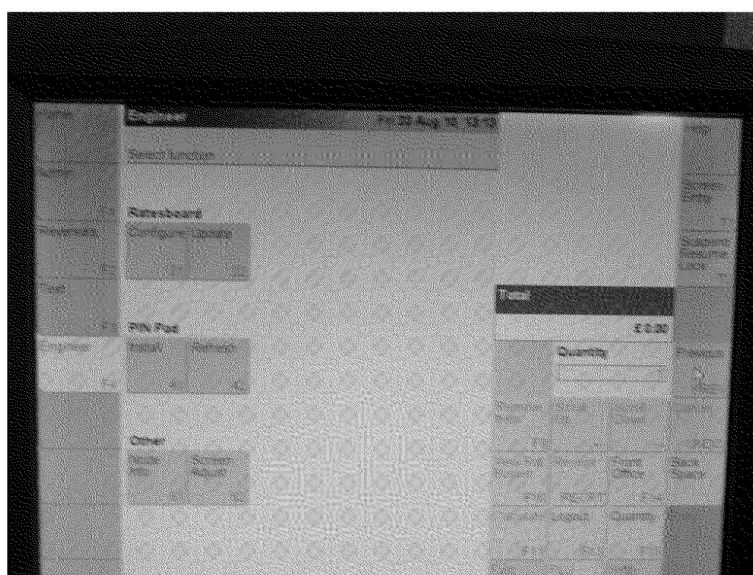
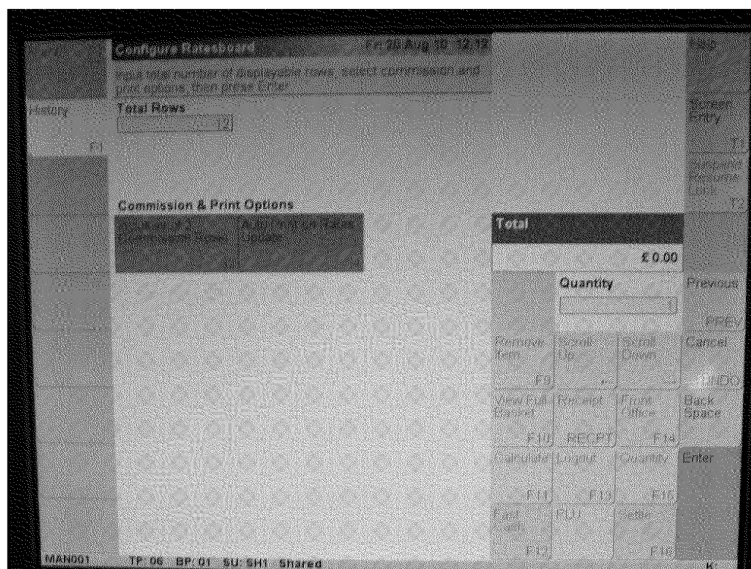

Figure 11
Figure 12
The Branch Manager should under Ratesboard touch the “Configure” icon or type 21 in order to start the process of reconfiguring the Rate Board confirming that the Rate Board is correctly configured. The Branch Manager will first be asked to input the number of rows on the Rate Board connected to the Counter Position (Figure 12)
- 2) The Branch Manager should enter the number of rows to correspond with the number of rows on the Rate Board attached to the Horizon Counter Position. If the displayed number of rows is incorrect, remove this entry using the ‘back space’ button on the keyboard or by touching the icon on the screen, then use the number pad to enter the correct number of rows. The Branch Manager will then be asked whether the last 2 rows should be reserved as commission lines (Figure 12).
- 3) The Branch Manager should decide whether the last two rows should be commission lines. If required he should touch the icon or type 32 on the keyboard. The Branch Manager will then be asked whether to Auto Print on Rates Update. (See Figure 12). If this icon is touched or keyboard 34 the A4 printer will print a new bureau rates report each time the rates are updated. When all the selections have been made press Enter on the screen or keyboard.
- 7) The Branch Manager should touch the 'Update' button keyboard 82 (See figure 12). The message "MSG10303 the ratesboard has been updated successfully" will appear. Press Print keyboard 84 to preview or print the new rates. Press Close to return back to the engineer screen (See figure 11 above).